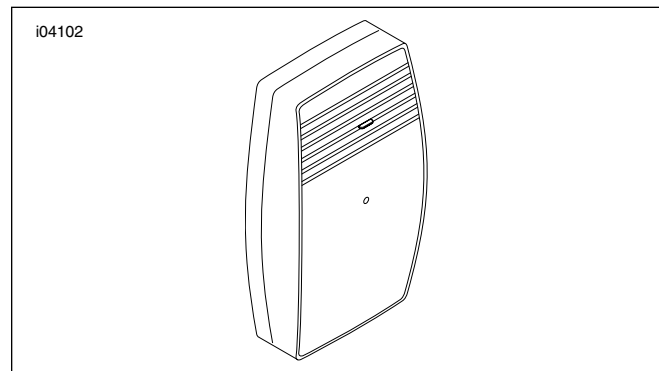

Figure 8-22. Garage Door Opener Receiver, Front View
5. See Figure 8-22. Plug the connector on the Harley-Davidson garage door opener receiver wires into the back of the Harley-Davidson garage door opener receiver.
2. See Figure 8-22. Press and hold the Set button the Harley-Davidson garage door opener receiver. The LED blinks continuously while the Set button is pressed.